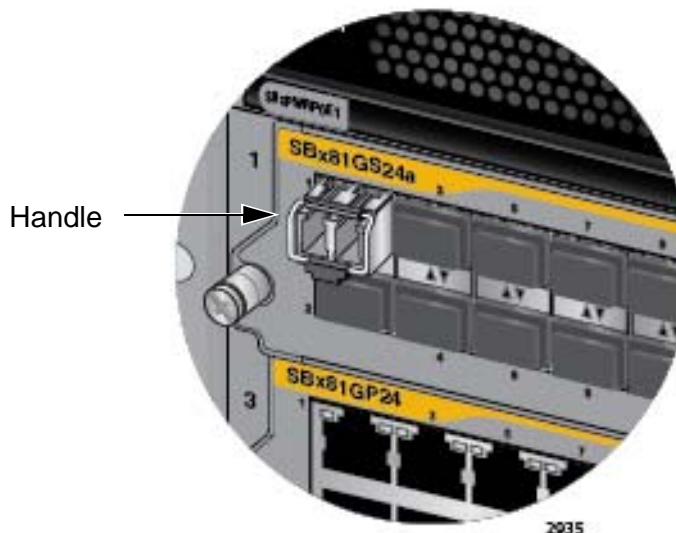

Figure 79. Verifying the Position of the Handle on an SFP Transceiver in the AT-SBx81GS24a Line Card
6. Before connecting the cable, verify the position of the handle on the SFP transceiver. The handle should be in the up position if the transceiver is in the top row on the line card, as shown in Figure 79, or the down position if the transceiver is in the bottom row.